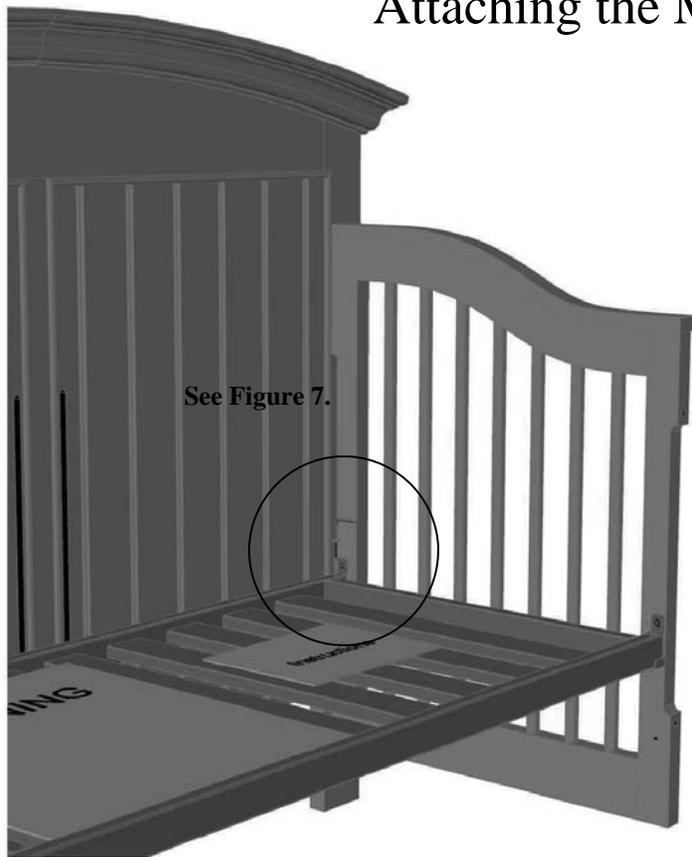

Figure 7.
- After the mattress platform is in place, use the (4) 2 3/8" connector bolts to attach the mattress platform to the support brackets. Insert each bolt in place and loosely start the bolt into the bracket threads. See Fig 7.